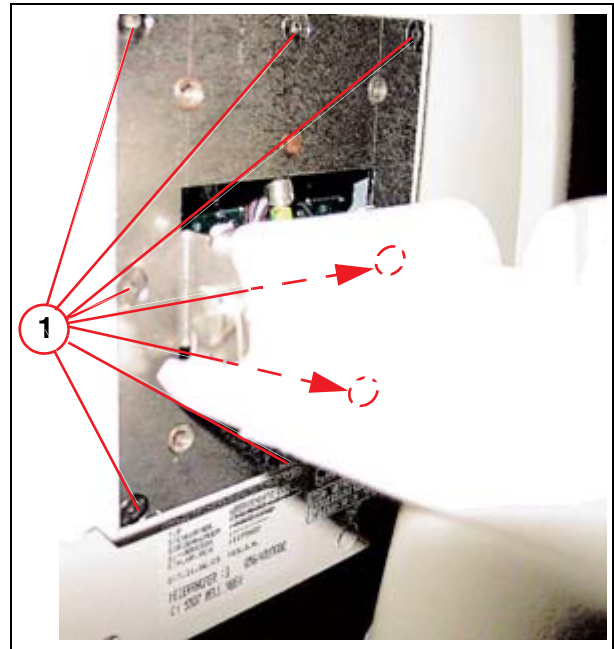

Fig. 8: Control_console_2
6. Unscrew the 5 Allen screws (1/Fig. 8 / p. 34), unplug the connectors and remove the control console.